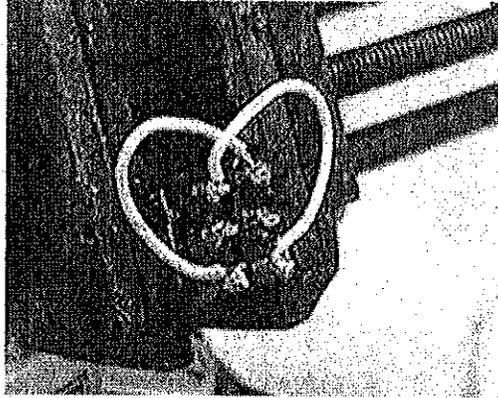

Figure 42: Cross-wired toggle switch.
4. Attach one of these pieces across the opposite corner terminals of each pole switch, making an "X" wiring pattern, as shown in Figure 42.